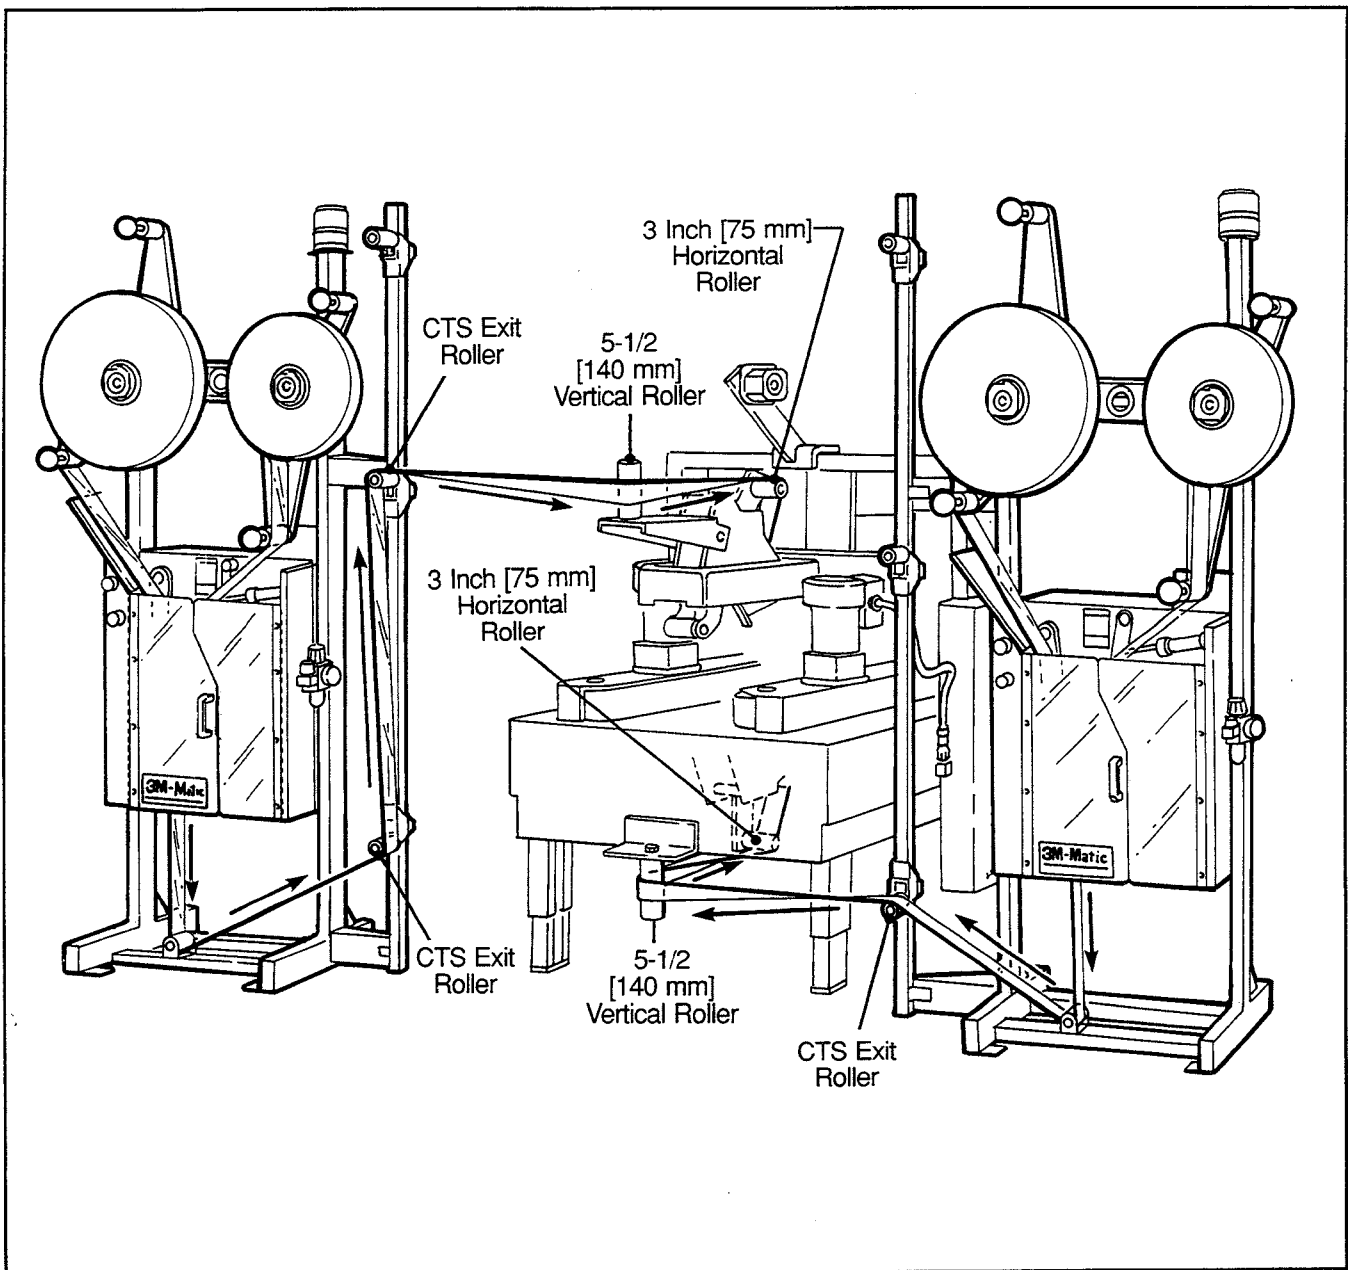

Figure 2-12 – CTS to Taping Head Tape Threading
2. Pull tape and thread around CTS exit rollers as shown in Figure 2-12. Continue pulling tape and thread around 5-1/2 inch [140 mm] vertical roller on taping head/case sealer. Pull tape over 3 inch [75 mm] horizontal roller (upper taping head) or under horizontal roller (lower taping head) with adhesive side forward and attach to threading needle. Pull tape through taping head with threading needle until taping head is threaded.